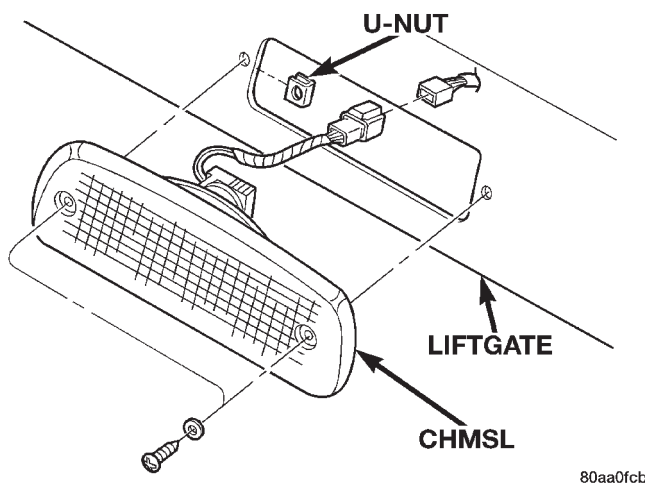

Fig. 7 Center High Mounted Stop lamp
- (1) Remove the screws attaching the CHMSL to the liftgate (Fig. 7).
- (2) Disconnect the wire harness connector.
- (3) Separate the CHMSL from the vehicle.